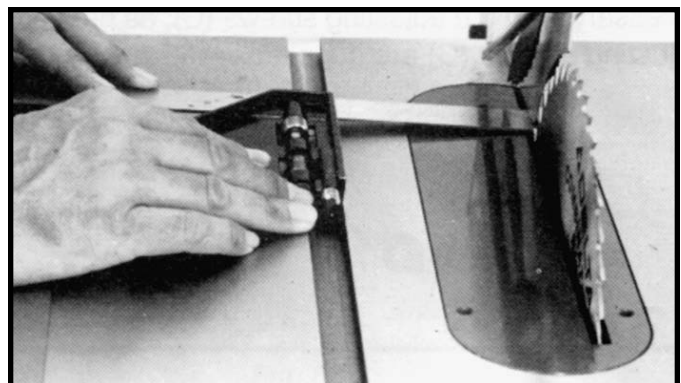

Fig. 112
3. Rotate the saw blade so that the same tooth you used in **STEP 2** is in the rear position, as shown in Fig. 112, and check this distance. Both the front and rear measurements should be identical.